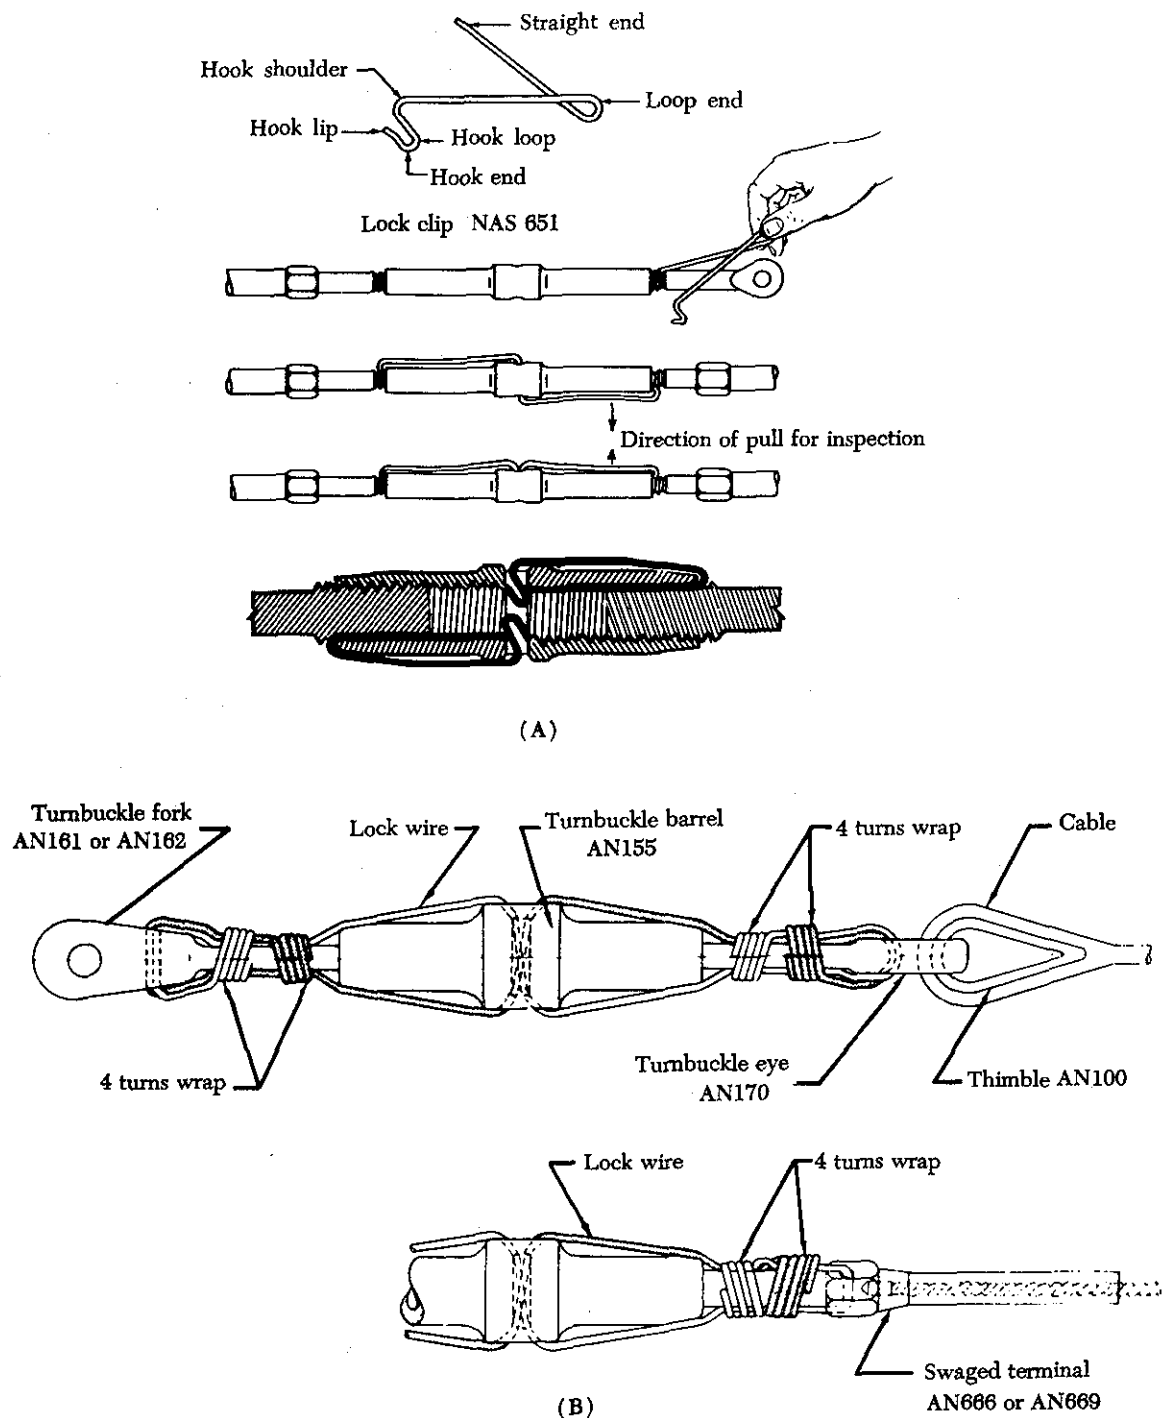

FIGURE 6-28. Safelying turnbuckles;
After a turnbuckle has been properly adjusted, it must be safetied. There are several methods of safeying turnbuckles; however, only two methods will be discussed in this section. These methods are illustrated in figure 6-28 (A) and 6-28 (B). The clip-locking method is used only on the most modern aircraft. The older type aircraft still use the type turnbuckles that require the wire-wrapping method.
although the single-wrap methods described are satisfactory. The method of double-wrap safelying is shown in figure 6-28 (B). Use two separate lengths of the proper wire as shown in figure 6-29.